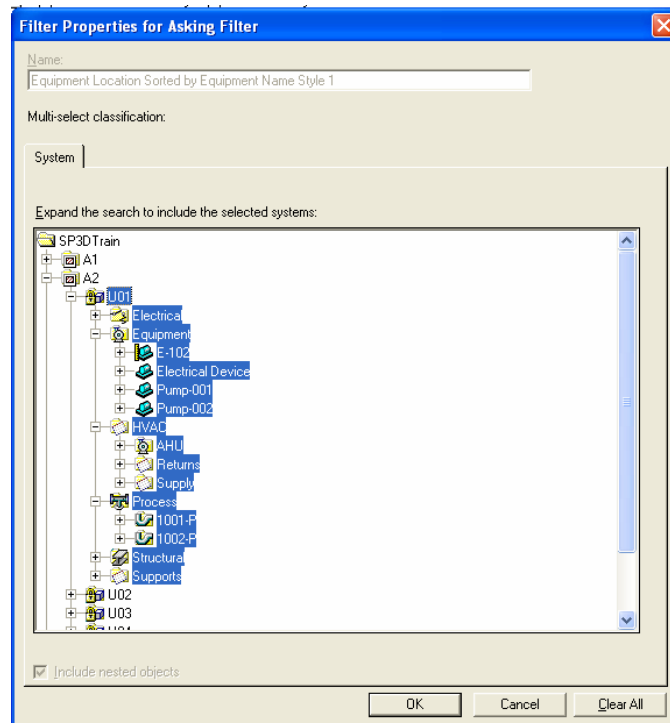

Figure 3: Filter Properties For Asking Filter Dialog Box
- The software prompts for parameters or a filter if the selected report template requires these inputs. In the **Filter Properties for Asking Filter** dialog box, select Unit **U01** to include as a parameter in the report, as shown in Figure 3.